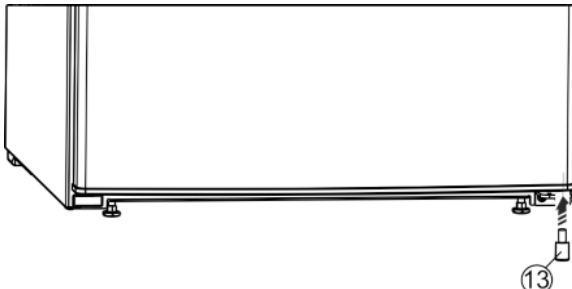

Fig. 8
- ▶ Insert the spacer Fig. 8 (13) back under the right-hand side of the door, as it is important for the stability of the appliance.